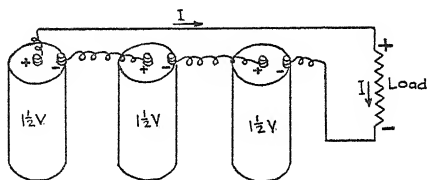

FIG. 62. Series connection for greatest voltage.
72. **Connections for Most Voltage.** Connecting generators or batteries in series will produce the greatest voltage, provided one precaution is observed. Always connect the units as shown in Figure 62, with + to — connections so the current never flows the wrong way through any one unit. "B" batteries for radio use are wired this way, with all cells in series.
In a series battery circuit, the voltages add. For example, in the circuit in Figure 62, the total voltage will be about  $1.5 \times 3$  or 4.5 volts. The current through each cell will, of course, be the same.